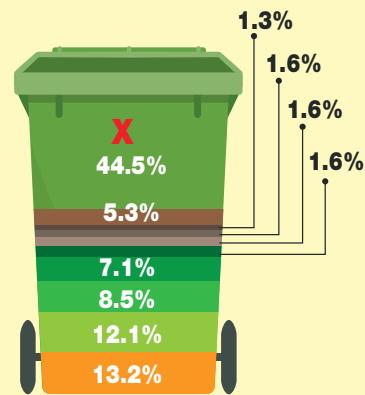

Figure 4
Questions 5 - 6 refer to Figure 4
5. Figure 4 shows the composition of solid waste in Malaysia. What is X?